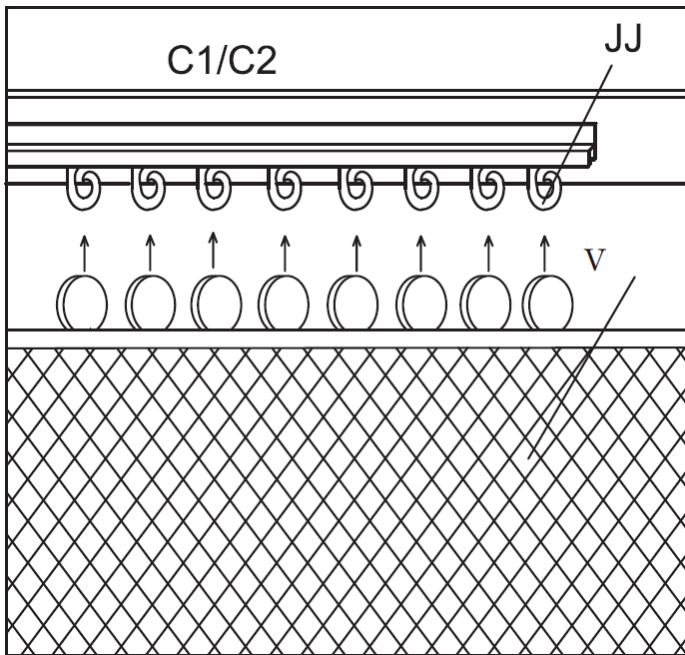
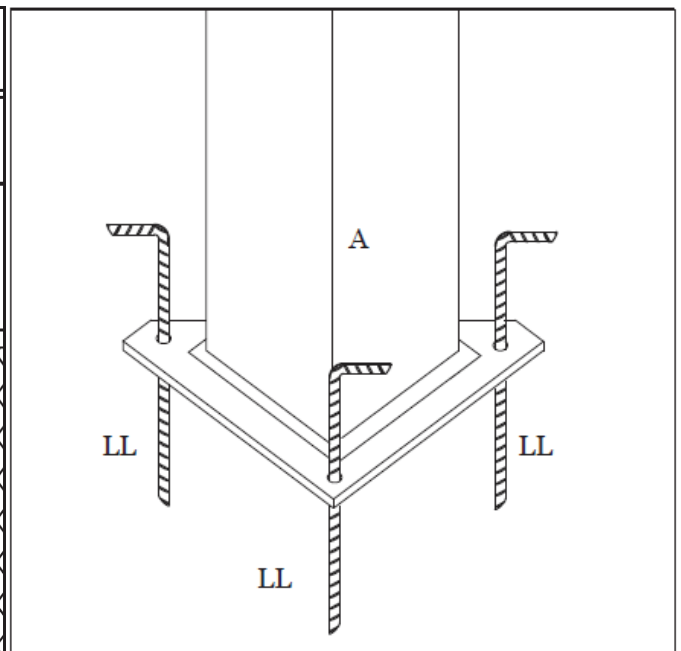
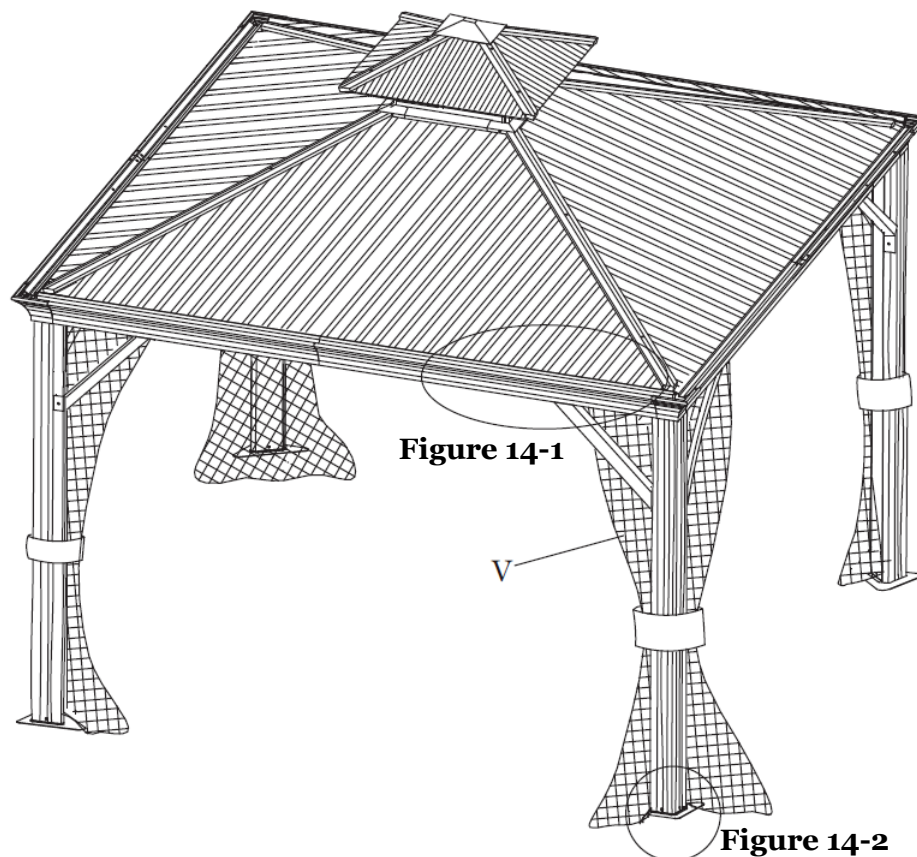

Figure 14-1
Figure 14-2
Figure 14-3
Step 14A: Attach the Mosquito Net (V) to the Mosquito Net Hooks (JJ). Repeat for all sides. See Figure 14-1 and Figure 14-3
Step 14B: Secure the gazebo by inserting the Ground Stakes (LL) into the Base Plates (B). Repeat for all corners. See Figure 14-2 and Figure 14-3.